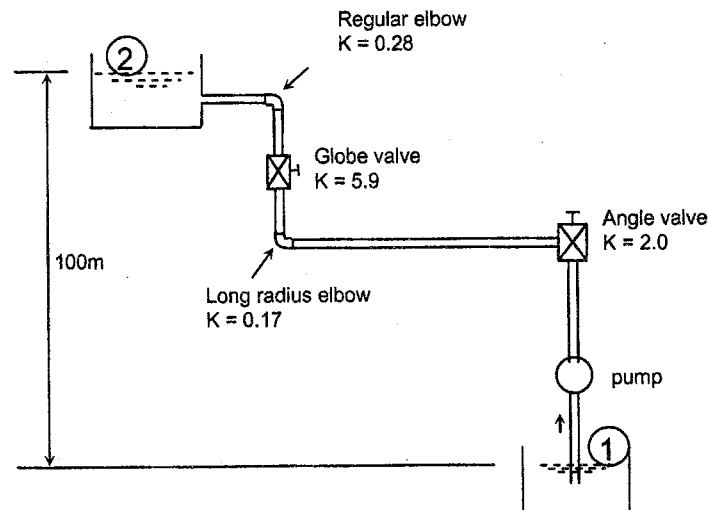

Figure 1 (Rajah 1)
1. [c] Determine total head required by the pump to transfer water from Tank 1 to Tank 2 as shown in Figure 1. The characteristics of the system are:
[a] Examine if bed erosion occurs using Shields diagram given in Figure 1.